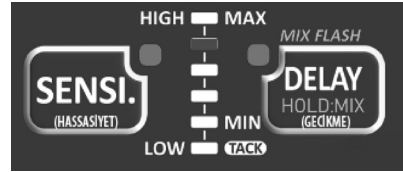

Figure 3
- Press the DELAY button briefly; the DELAY light will blink. Adjust the delay time by pressing the button until you reach the desired level, then stop (see Figure 3).
- The sensitivity of the sensors can be adjusted to low (MIN) or high (MAX) levels. The selected level will be shown on the LED display. Adjust the sensitivity by pressing the SENSI button until you reach the desired level, then stop (see Figure 3).